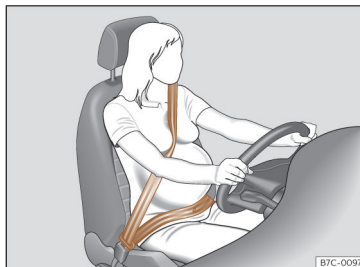

Fig. 12 Position of seat belt during pregnancy.
In the case of **pregnant women**, the seat belt must lie evenly across the chest and as low as possible over the pelvis, never across the stomach and must be worn properly at all times during the pregnancy»» Fig. 12.
- For pregnant women, the lap part of the seat belt must lie as low as possible over the pelvis and always lie flat, “surrounding” the stomach»» Fig. 12.